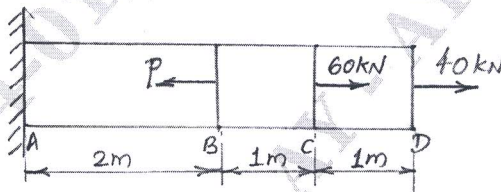

Fig.Q1(b)
- b. Determine the magnitude of the load P necessary to produce zero net change in the length of a straight bar shown in Fig.Q1(b). Area $A = 400 \text{ mm}^2$.